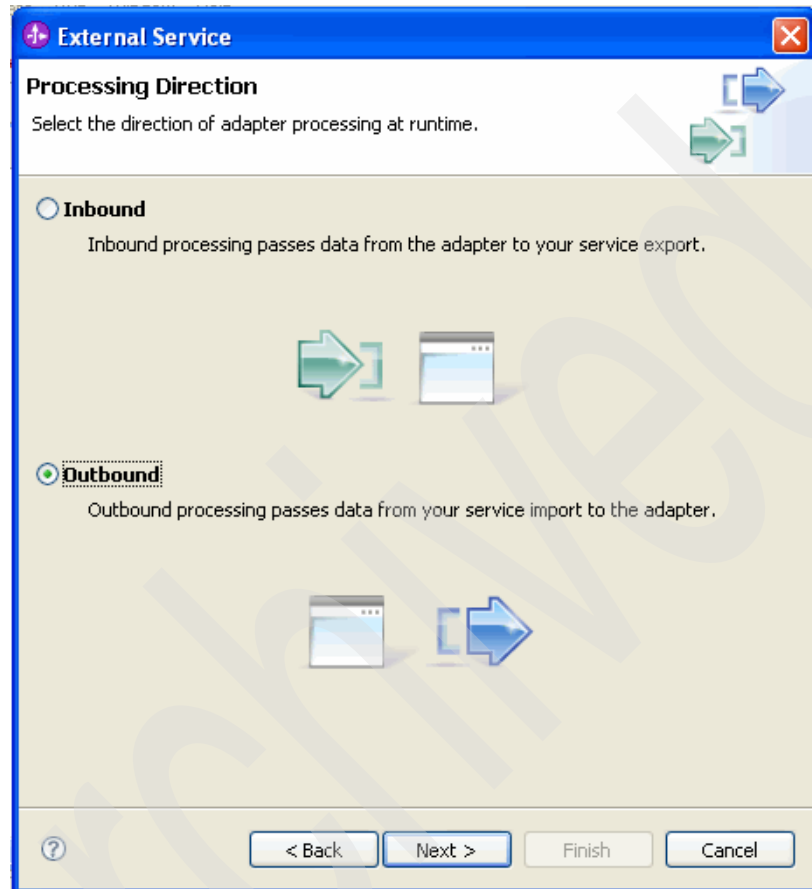

Figure 5-2 Select the processing direction
5. Select **Outbound** for the processing direction on the next dialog box and click **Next**, as shown in Figure 5-2.